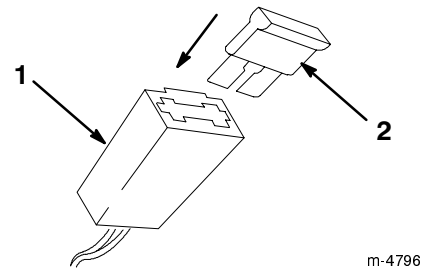

Figure 7
2. Install the fuse in the fuse holder as shown in Figure 7.